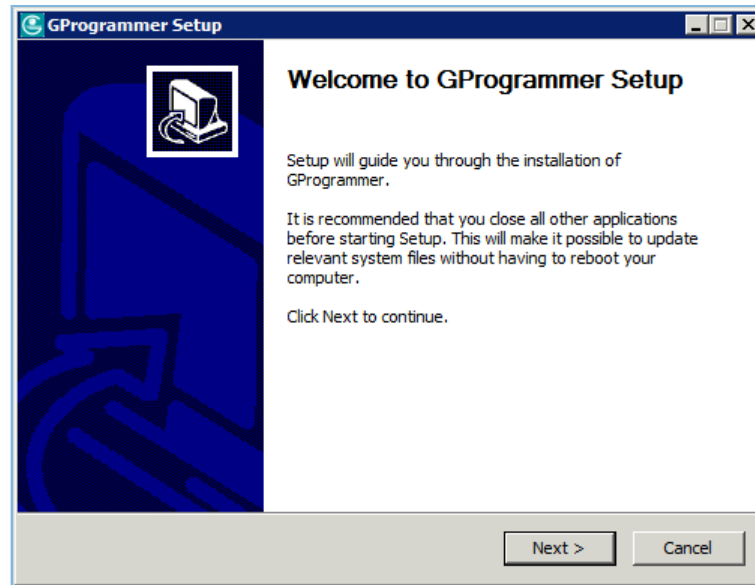

Figure 2-1 **GProgrammer Setup** installation wizard
1. Double-click *GProgrammer Setup Version.exe*, and follow the steps in the **GProgrammer Setup** wizard (see Figure 2-1).